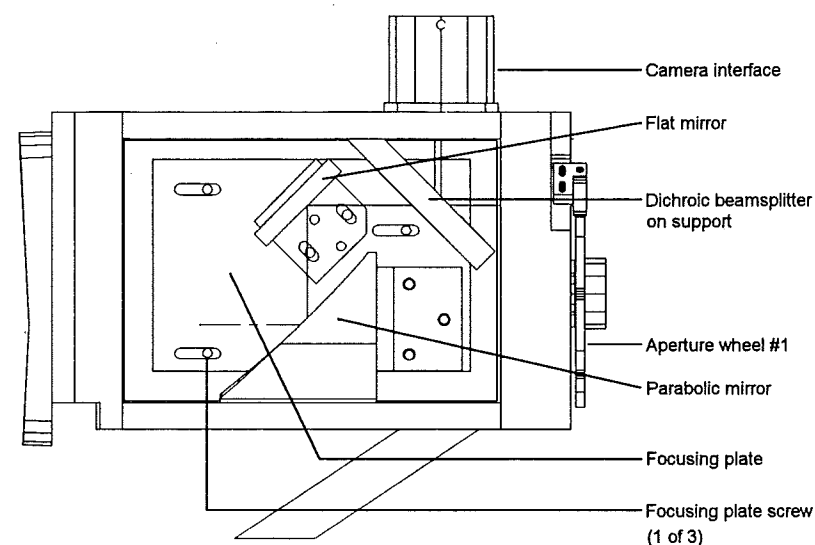

Figure 6. Input collimator with left side plate removed.
- a) Unscrew and remove the left side (when facing the aperture wheel) plate of the input collimator (Figure 6).
- a) Make sure that the left side plate of the input collimator has been removed, and locate the flat mirror (see Figure 6).